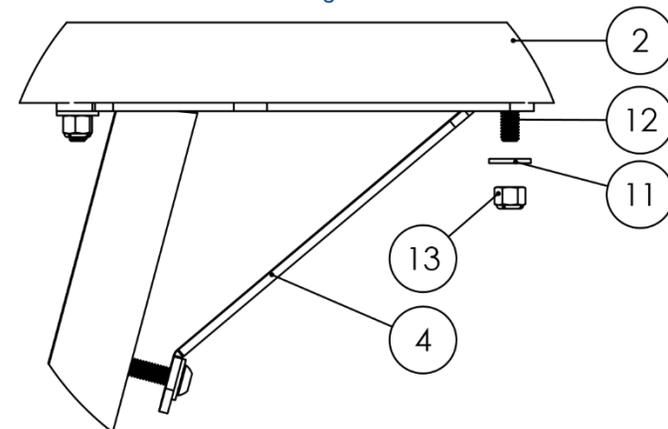

Figure 10
7. **Install the Crossbars onto the Legs.** To install a Crossbar (Item No. 2), hold it above the Legs (Item No. 3) so that the ends of the Carriage Bolts (Item No. 12) hang down and align with the holes on the Crossbar Gusset Assembly (Item No. 4). Using a Metal Washer (Item No. 11) and a Nylon Lock Nut (Item No. 13) secure each Leg and Crossbar. Figure 10 shows the bolt assembly as it is required.